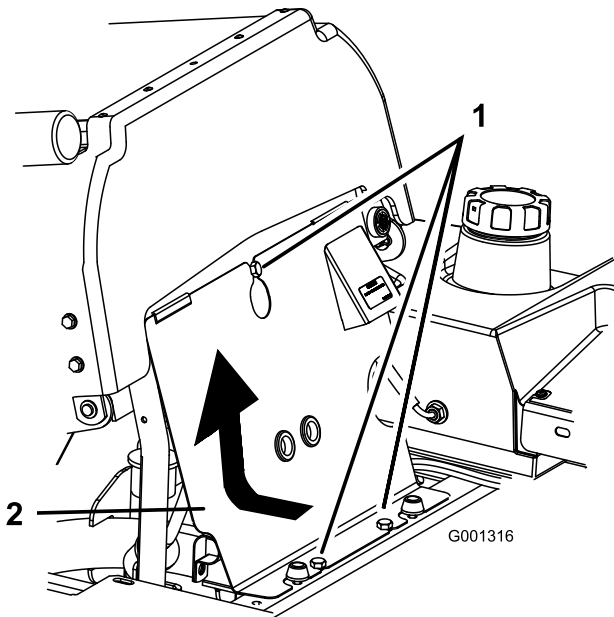

Figure 38
1. Tilt the seat forward, loosen the bolts and remove the front engine panel (Figure 38).